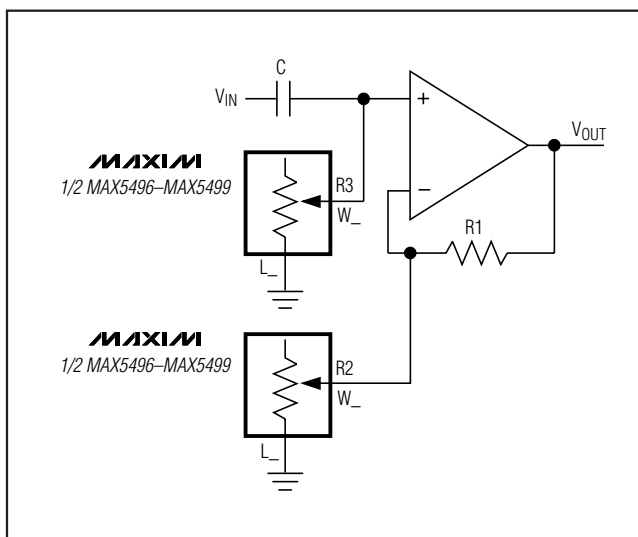

Figure 14. Programmable Filter
Figure 14 shows the configuration for a 1st-order programmable filter. The gain of the filter is adjusted by R2, and the cutoff frequency is adjusted by R3. Use the following equations to calculate the gain (G) and the 3dB cutoff frequency ( $f_c$ ).